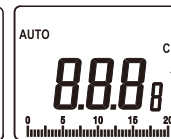

Figure 3-6-2
- Press the “RAN” button to switch between meters and feet (as shown in figure 3-6-2).